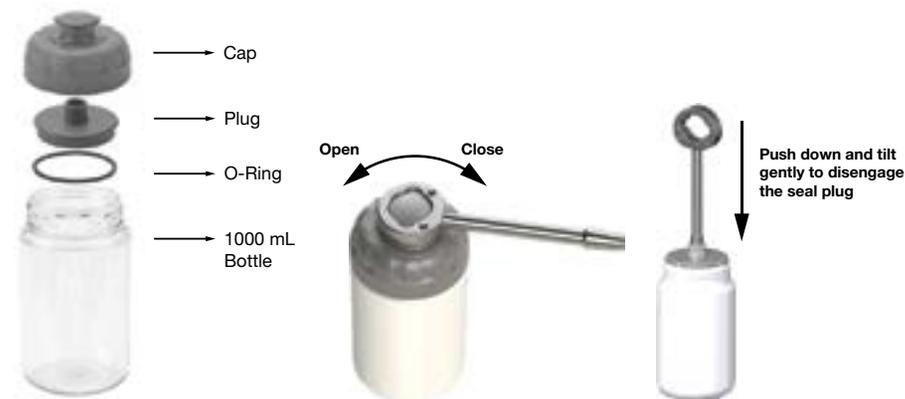

Figure 1: Left: assembly instruction. Center & Right: Use the tool to close and open the cap of the bottle and take of the plug
Superspeed bottles require a sealing cap assembly that includes a closure, plug, and O-ring. Carefully follow centrifuge and rotor instruction manuals to ensure proper performance. Follow assembly instructions (Figure 1).
- Also as needed, for the 1 000 mL bottle, please use the other side of the tool to take off the plug, (see figure 1)